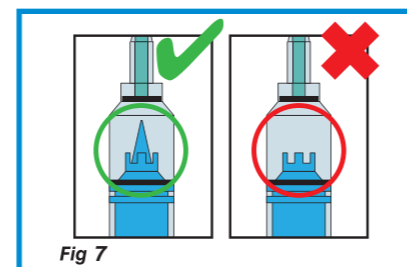

Fig 7
- Carefully check if there is a retractable mechanism in the front of the plunger before use. Do not use the product if there is no retractable mechanism (Fig 7).